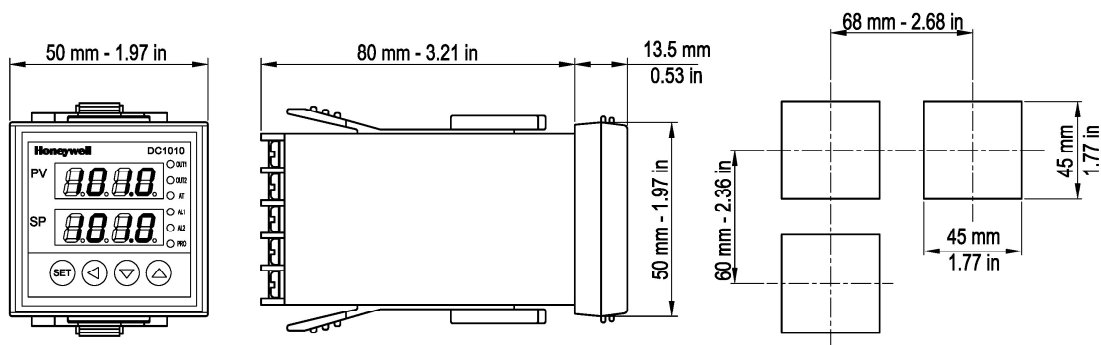

Figure 2-1 Model DC1010 Dimensions
- Overall dimensions and panel cutout requirements for mounting the controller are shown in Figure 2-1 through Figure 2-4